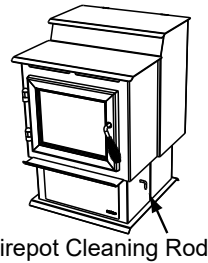
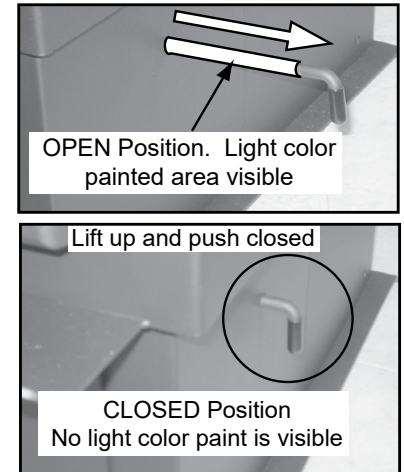

Figure 16.2
Figure 16.3
- b. Locate the fire pot cleaning rod on the right side of the appliance (**Figure 16.2**). When you pull the cleaning rod straight out it will slide open the firepot floor to allow the ashes to be deposited in the ash drawer. You will see the light color painted area on the cleaning rod to let you know the rod is in OPEN position (**Figure 16.3**).
- d. To close the firepot floor: slightly raise the cleaning rod and then push it back into place. If you have closed the cleaning rod properly (pushed all the way in) you will not see any of the light color painted area (**Figure 16.3**).